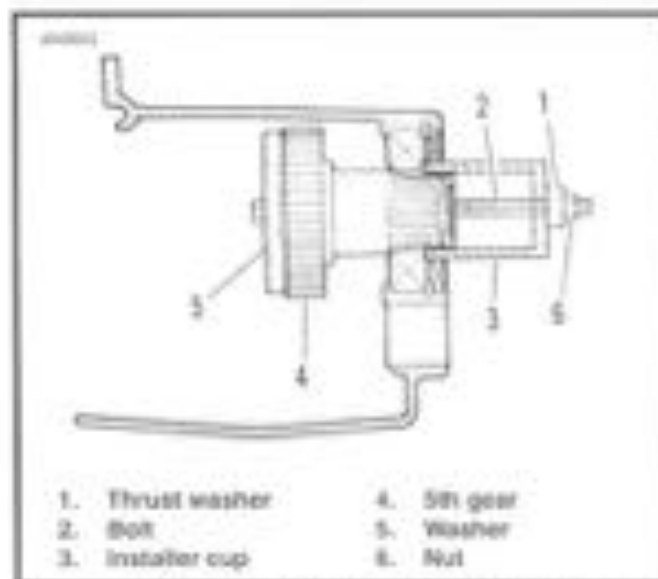

Figure 6-47. Main Drive Gear Installation
2. Use Main Drive Gear Remover and Installer Tool. See Figure 6-47. Take bolt (2) and place washer (5) followed by main drive gear (4) over end of bolt. From inside of case insert bolt and main drive gear through inner race of ball bearing.
3. Insert threaded end of bolt (2) through installer cup (3) and thrust washer (1). Thread nut (6) onto end of bolt (2). Tighten nut (6) until shoulder on gear (4) bottoms against inner race of bearing.